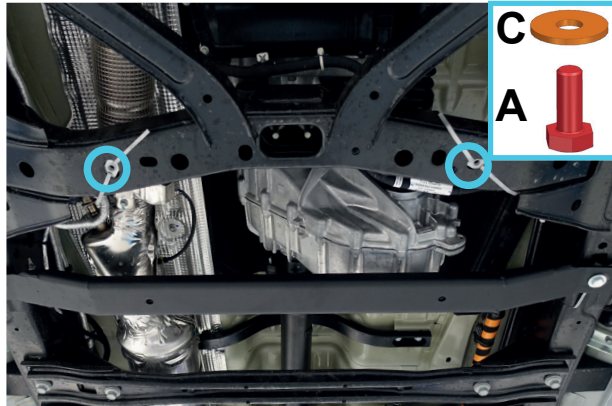

Fig. 7
4. Loosely install supplied M10x35 bolts (item A) and M10 washers (item C) as shown in fig.7.